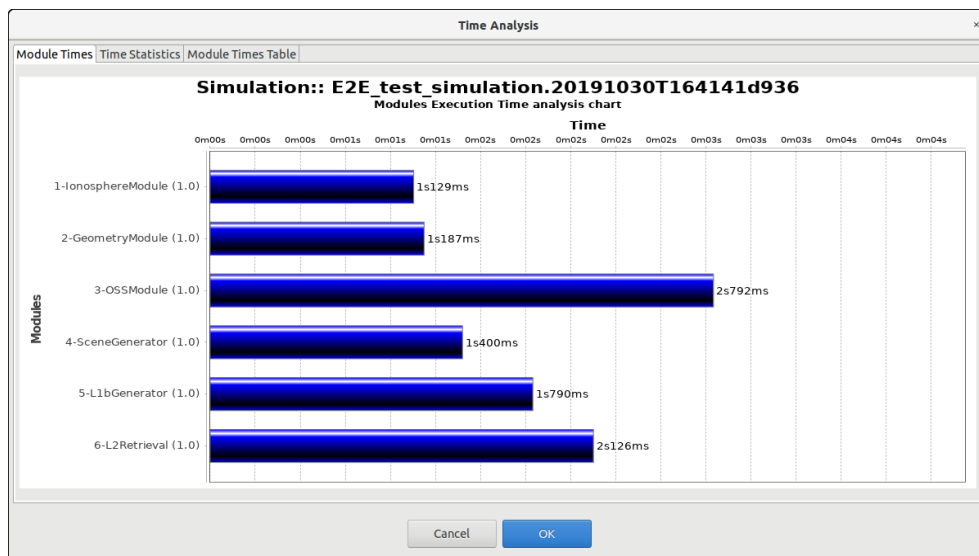

Figure 4-64: Bar graph showing module times
- *Module Times* tab: presents the module execution time in a bar chart graph10. See Figure 4-64.